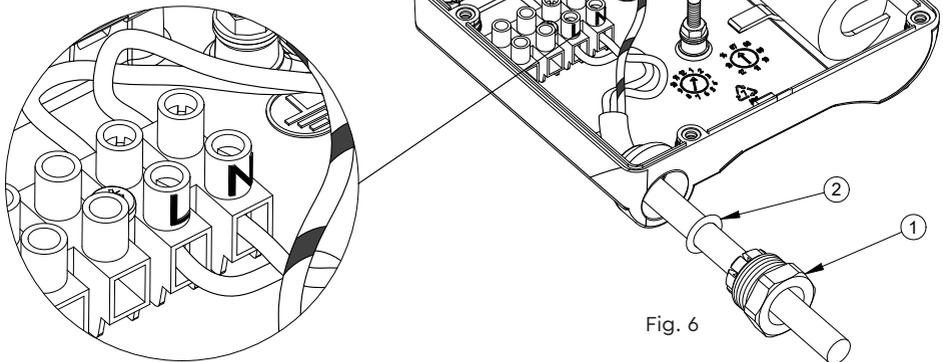

Fig. 6
The cable gland assembly Fig. 6 (items 1 & 2) provides the necessary protection against ingress of solid objects and moisture as well as providing cable retention.
3. Disassemble cable gland as shown in Fig. 6 and insert cable into position ensuring 'O'-ring (item 2) is placed over the cable before the clamping insert (item 1) is tightened.
7. Confirm cable routing is as shown in Fig. 6 and assemble and secure terminal box lid.